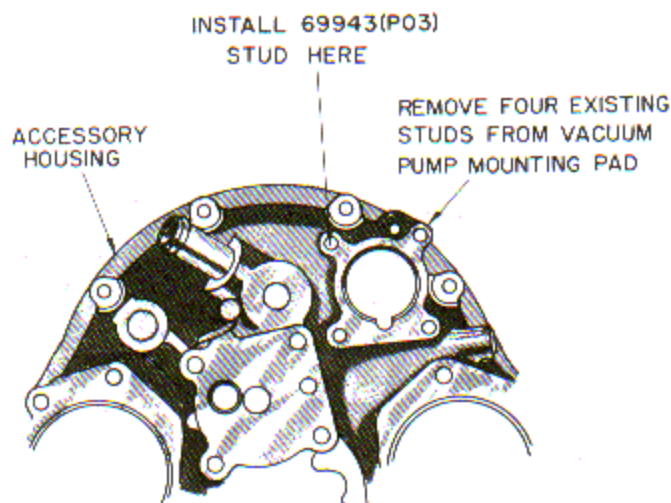

Figure 5-4. Vacuum Pump Pad Stud Modification
b. Remove all four studs from the vacuum pump mounting pad and install one 69943 (P03) stud to a driven height of 0.83 inch in the upper left-hand hole; the other three holes are left as is. (See figure 5-4.)